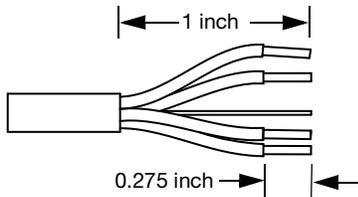

Figure 28: Stripping Cable Shielding and Wires
1. If the cable has not yet been stripped, strip one end of the cable. Strip the outer shielding by 1 inch and then strip the black, red, blue, and white wires by 0.275 inch (Figure 28).